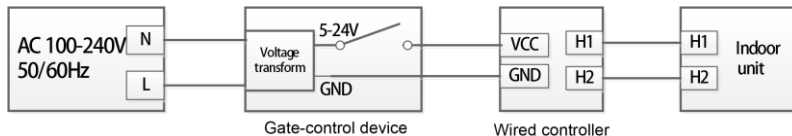

Figure 3.13 Wired Controller Connecting to Gate Control DC5-24V
- ① Wired controller 2 in figure 3.13 can be set as master controller or slave controller;
- ② Wired controller 1 in figure 3.13 can be model or other models.
- (4) Power input of gate control card insertion/removal device supported by wired controller VEKCH2B. AC 100-240V~50/60Hz, DC 5~24V. In practice, connect the gate control output power cord with the corresponding power supply interface of wired controller according to the type of output power of gate-control device (Please refer to 3.1.4 Installation for wire connection of specific interface). Wired controller will judge the placing and absence of card by detecting the power supply of gate-control device. The detecting process is as follow: